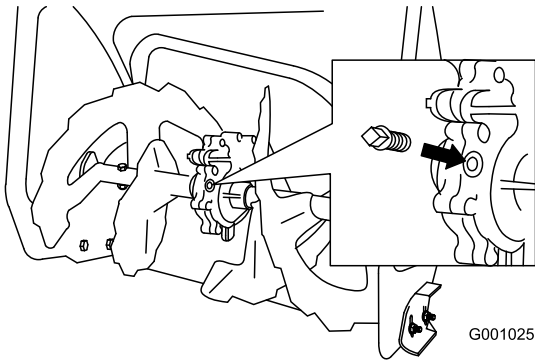

Figure 52
- 2. Clean the area around the pipe plug (Figure 52).